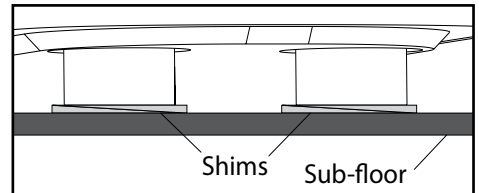

FIGURE 4. Shim feet if needed using construction adhesive to attach shims to bathtub feet and subfloor.
- b. Use shims to level bathtub if needed (Fig 4).
- c. If needed, level bathtub with shims into construction adhesive under feet (Fig 4).